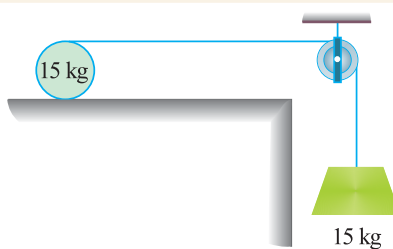

Fig. 31.18.
1. A solid right circular roller of mass 15 kg is being pulled by another body of mass 15 kg along a horizontal plane as shown in Fig. 31.18.